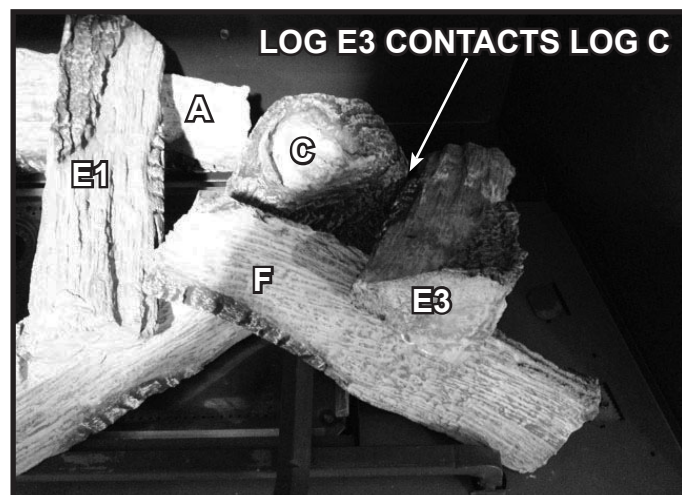
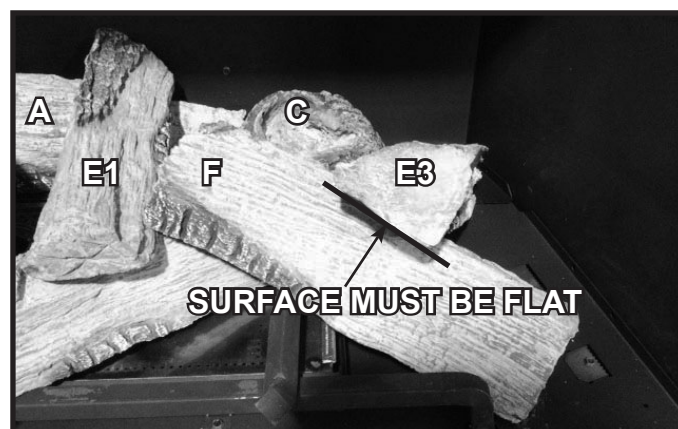

Figure 12. Log E3 Installed
Figure 13. Log E3 Installed
8. **(LOG E3):** Place Log E3 into appliance as shown in Figure 12. The bark should be toward the front of the appliance. The bottom of the log should be flat against the surface of Log F as shown in Figure 13. Slide Log E3 toward the rear of the firebox until it contacts the log pin, keeping the flat surfaces in contact as noted in Figure 13. Log E3 should contact Log C as noted in Figure 12. Figure 3 shows the installed log set.